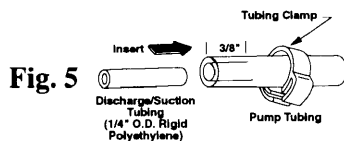

Fig. 5
11. Insert the suction tubing into the inlet pump tubing a minimum of 3/8". Secure with tubing clamp (see Fig. 5).
12. Insert the discharge tubing into the outlet pump tubing a minimum of 3/8". Secure with tubing clamp (see Fig. 5).